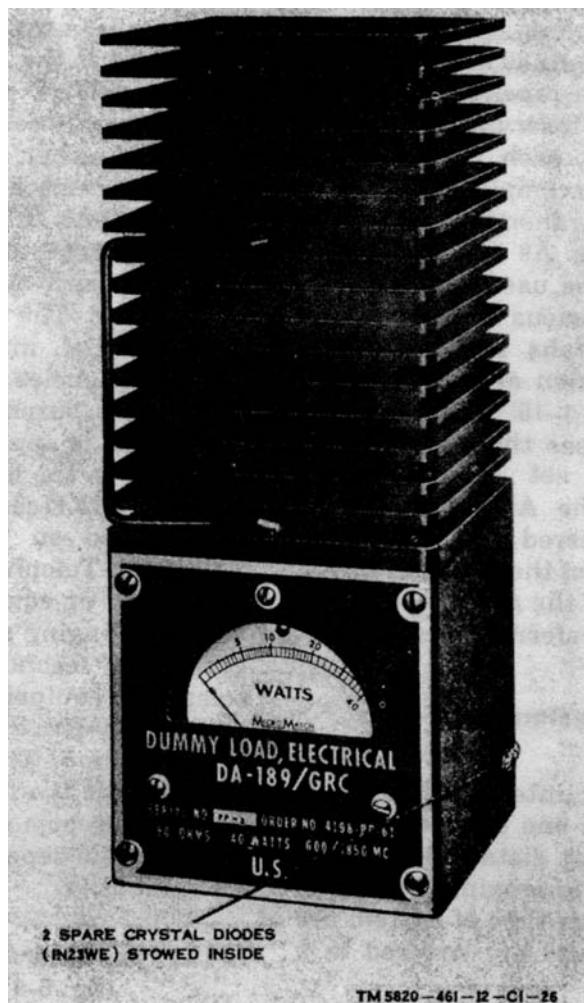

Figure 1-14. Dummy Load, electrical DA-189/GRC.
d. *Dummy Load, Electrical DA-189/GRC* (fig. 1-14). Dummy Load, Electrical DA-189/GRC is used for dissipation of RF output energy during alignment and troubleshooting of the radio set. The cable from the DA-189/GRC attaches to the TO ANT connector on the front panel of Amplifier Oscillator AM-1957/GRC or AM-1958(*)/GRC A meter included in the DA-189/GRC permits direct observation of the output power level.